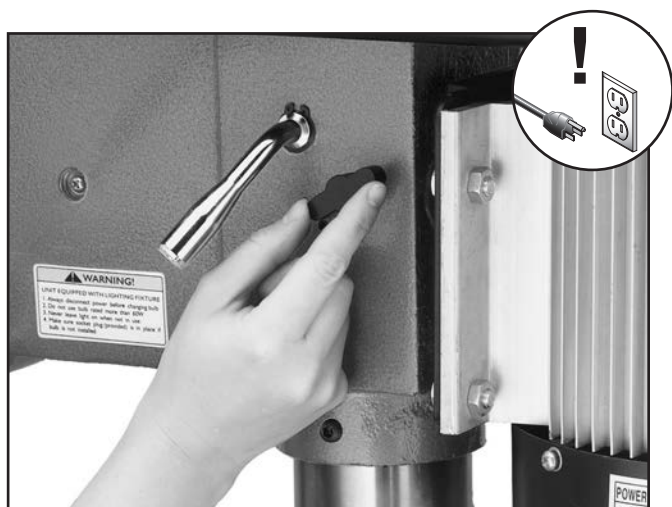

Figure 28. Loosening lock knob (both sides).
2. Loosen the belt tension lock knobs (shown in **Figure 28**) on both sides of the headstock, so the motor is free to move.